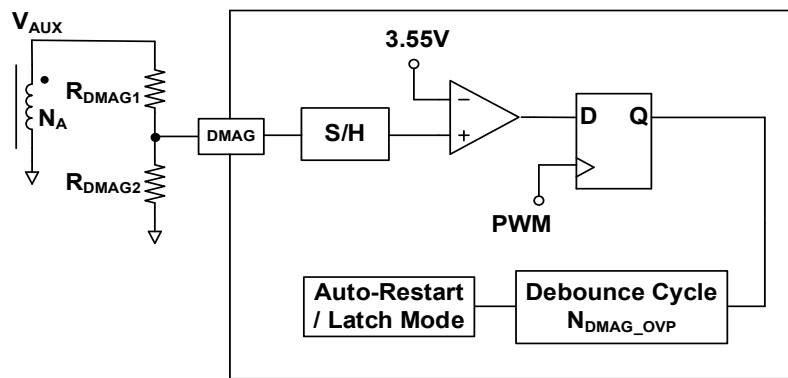

Figure 28 DMAG Over Voltage Protection Circuit
DMAG-OVP prevents server system damage when abnormal system conditions occur and cause DMAG voltage rising abnormally. Usually, DMAG over voltage protection is caused by not working properly feedback network (FB) or a fault condition of the DMAG voltage divider resistors. Figure 28 shows the internal circuit of DMAG-OVP. When abnormal system conditions occur and cause DMAG voltage to exceed V_{DMAG_OVP} for more than N_{DMAG_OVP} consecutive switching cycles, PWM pulses are disabled, and the IC enters the auto-restart mode or the latch mode.